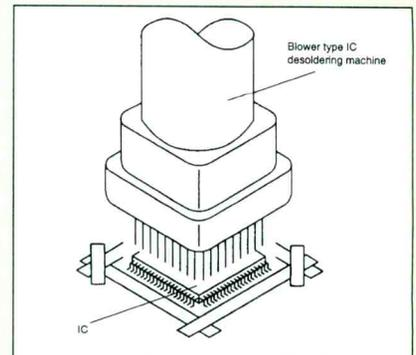

Figure 2.
2. Heat the IC leads using a blower type IC desoldering machine (Figure 2). Note: do not use force to try to rotate the IC, or to move it back and forth until the IC can